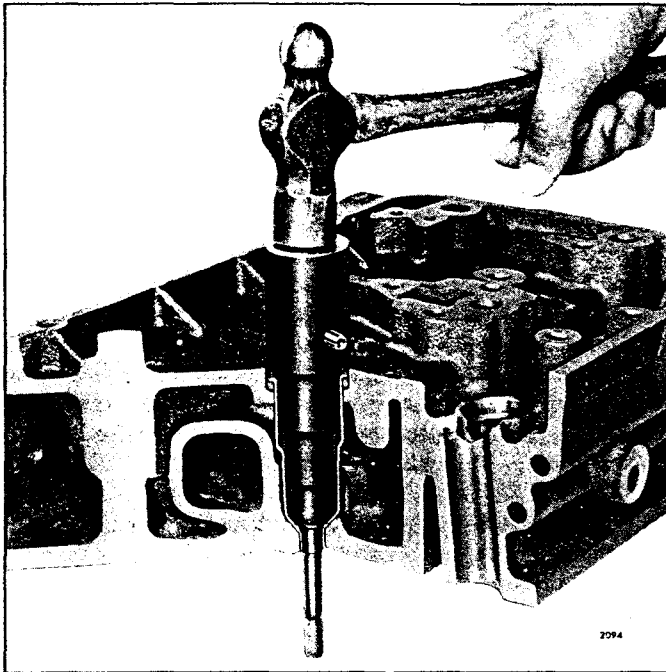

Fig. 2 - Installing Injector Tube Using Tools J 5286-4A and J 5286-5
- 2. Place the installer J 5286-4C in the injector tube. Then, insert the pilot J 5286-5 through the small opening of the injector tube and thread it into the tapped end of the installer (Fig. 2). For proper installation of any injector hole tube, the tool must contact the tube at the bottom before it touches the
3. Slip the injector tube into the injector bore and drive it in place (Fig. 2). Sealing is accomplished between the head counterbore (inside diameter) and outside diameter of the injector tube. The tube flange is merely used to retain the seal ring.